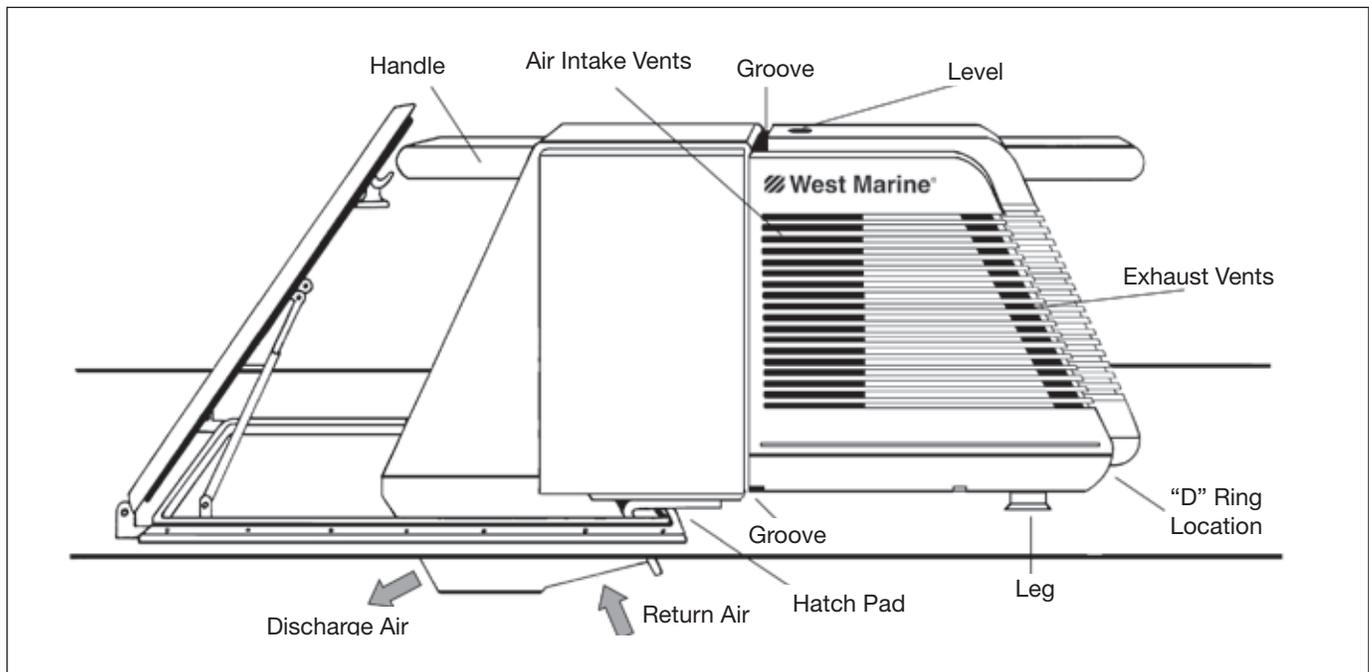

Figure 5. The Carry-On positioned in the hatch of a boat without the hatch bag.
1. Place in open hatch as shown. (See Figure 5.) Adjust Carry-On so that the hatch pad protects and insulates the hatch and the Carry-On unit. Make sure that movement of Carry-On is stifled due to wedging action of the hatch pad as it presses against hatch edge.